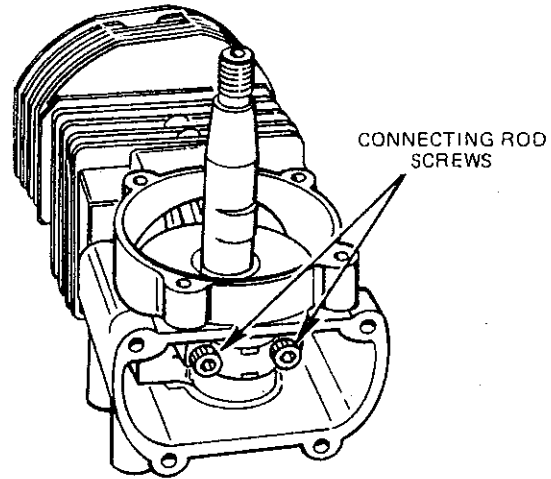
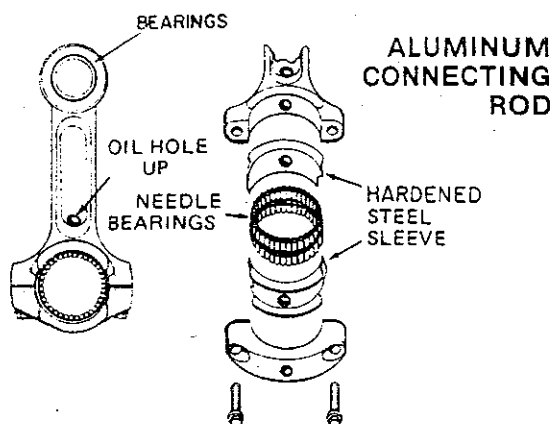

Figure 6
Figure 14
- (6) Notice the location of the connecting rod match marks before disassembly. (See Figure 14 or 15). Match marks should be down toward P.T.O. end. Remove connecting rod screws. (See Figure 6). Carefully remove the connecting rod cap, bearing needles and bearing liners.